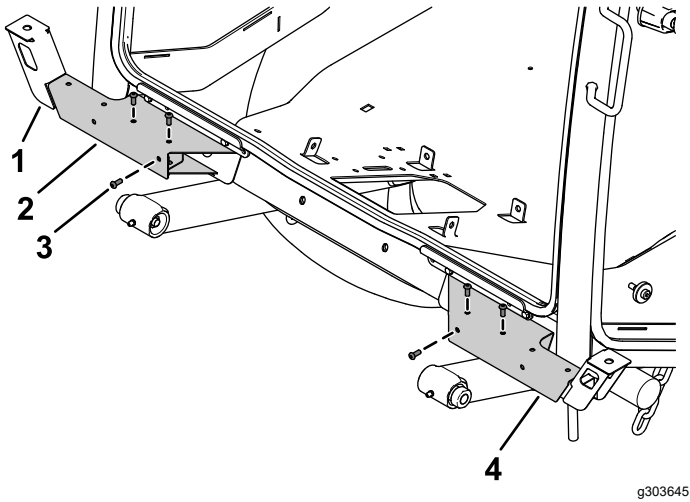

Figure 15
- Secure the left light mount and right light mount to the light bases using 3 button-head bolts (1/4 x 5/8 inch) through the speed nuts on each side (Figure 15).